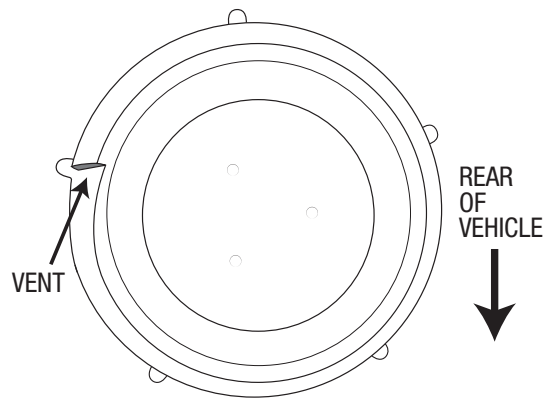

Figure 20
- a. If supplied with a plastic clamp, install it on the backside of the Pre-Filter. Using a 5/16th wrench, tighten until snug enough to prevent lifting or twisting of the air ram, assuring the pin on the bottom side of the "bolt" is all the way through so it holds. Once the clamp is tightened, snip the extra off (fig. 20).